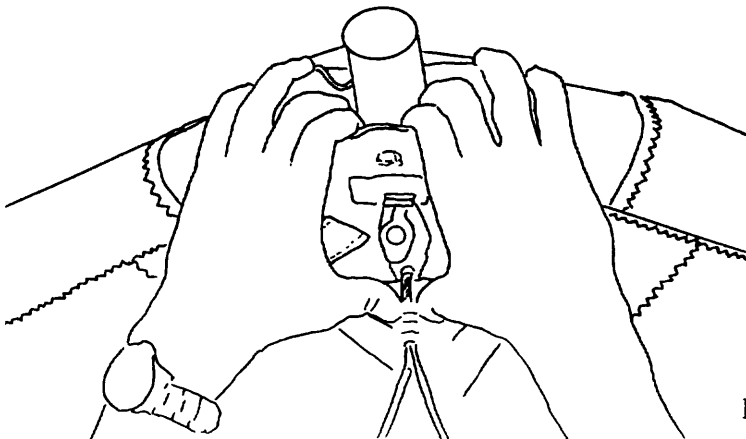

Fig 56
1) Remove the safety from the front bottom nose bolt. Place your thumbs against the "T" handle on the keyhole tang and push up on this handle while pulling down on top of the nose as shown. (Fig 56) This provides the easiest method for removing the keyhole tang from the nose bolt.